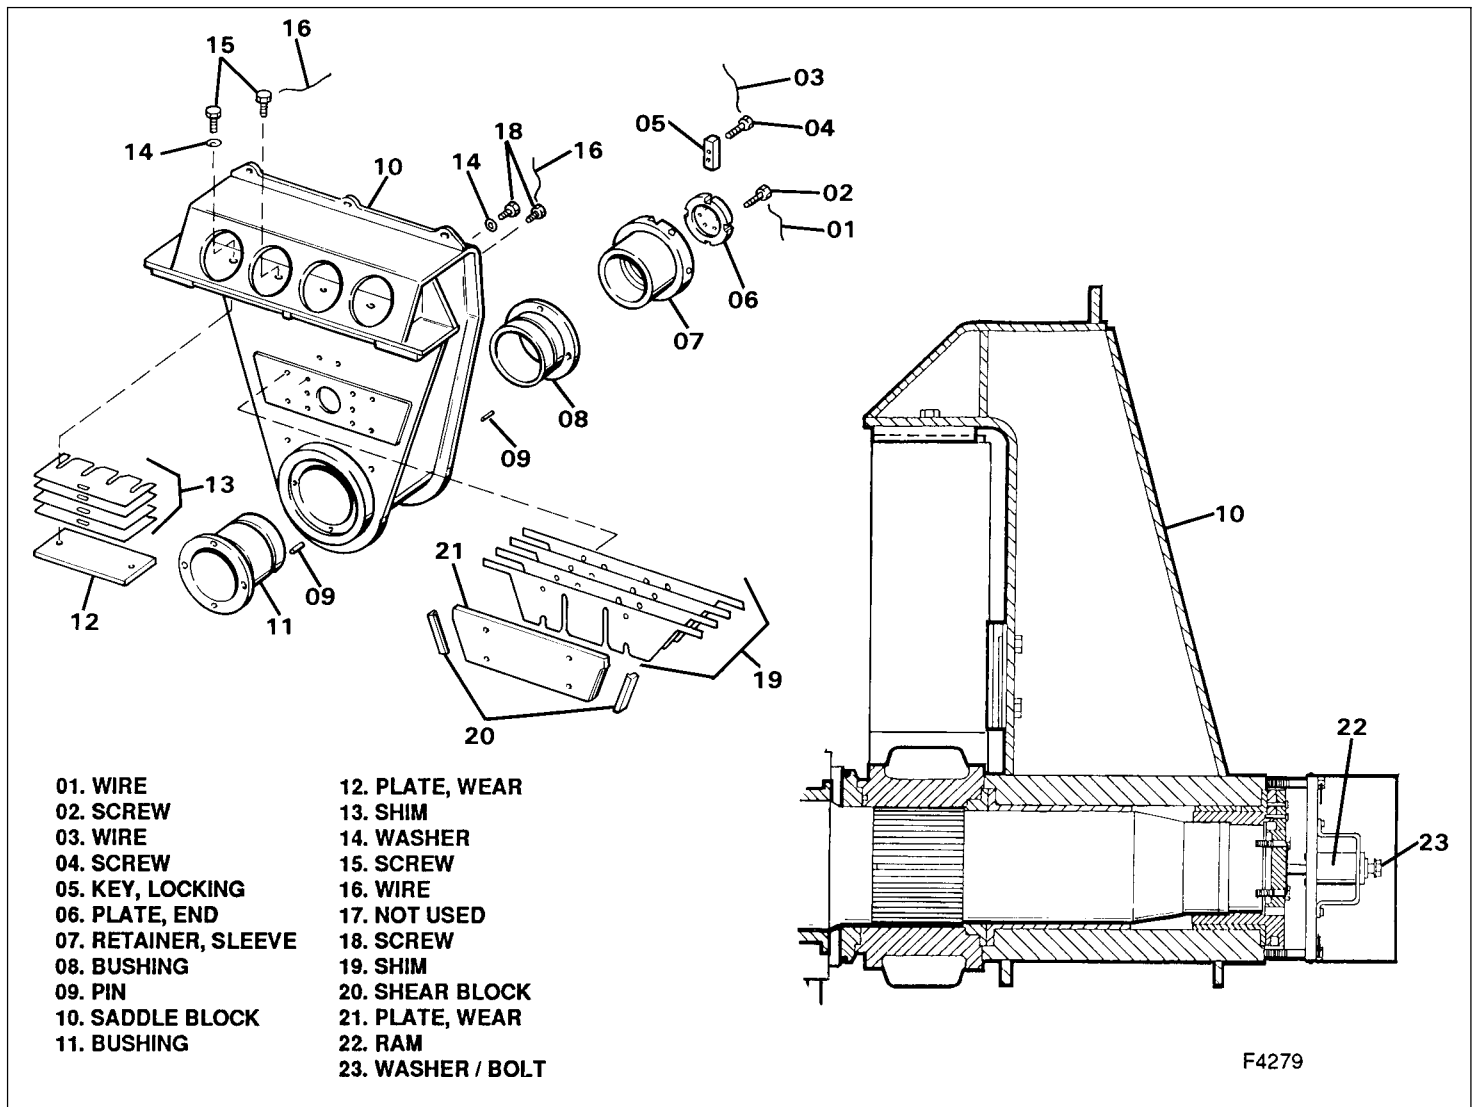

Figure 6-12. Saddle Block Assembly and Disassembly
B. Refer to Figure 6-12 and remove the lower slide plate shims (19) from both saddle blocks.
C. Starting at the left end of the shipper shaft first, remove two capscrews (04) and locking key (05) from each end of the shaft. Loosen sleeve retainer (07) a half turn on both ends of the shaft.